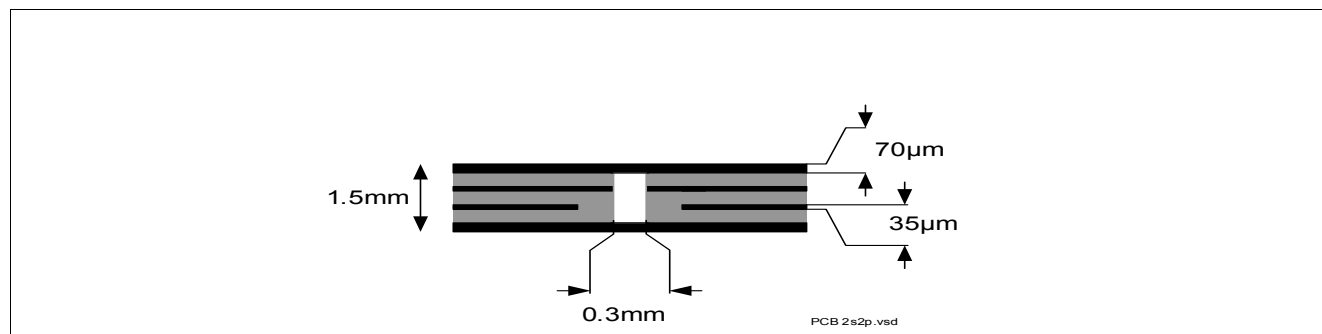

Figure 4 2s2p PCB Cross Section
2) Specified R_{thja} value is according to JEDEC JESD51-2,-5,-7 at natural convection on FR4 2s2p board; The product (chip + package) was simulated on a 76.4 x 114.3 x 1.5 mm board with 2 inner copper layers (2 x 70µm Cu, 2 x 35 µm Cu). Where applicable, a thermal via array under the exposed pad contacts the first inner copper layer. Please refer to Figure 4.